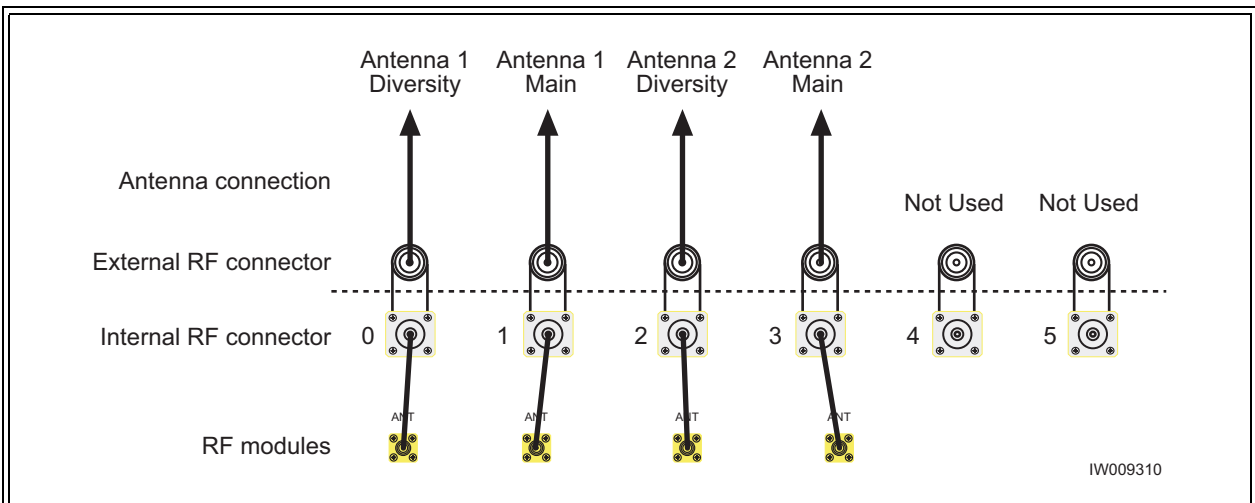

Figure 2-28 Antenna Cabling for S33 Configuration
- Connect your antennas as shown in Figure 2-28.